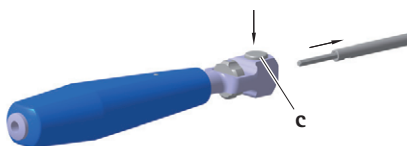

Fig. 2
- Press button **c** and remove handle **1**, see Fig. 2.